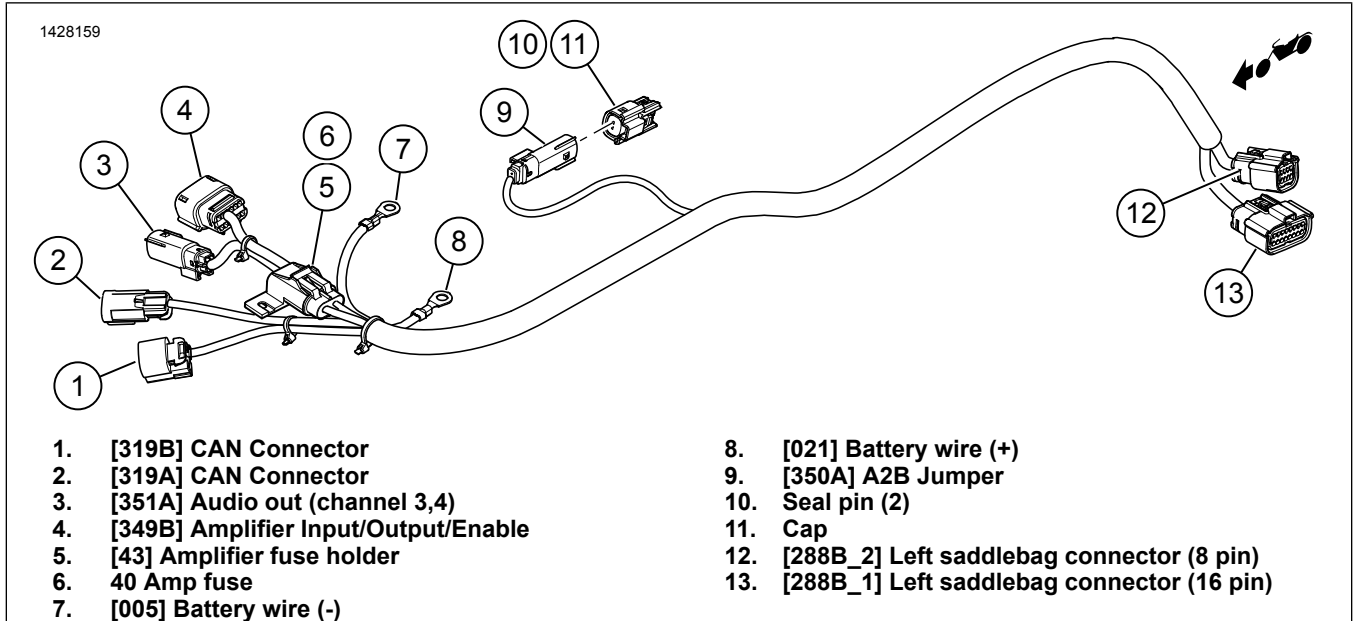

Figure 13. External Harness Connectors (2017 and Later)
See Figure 13. If a secondary amplifier is **NOT** installed, insert seal pins (10) into cap (11) and connect to connector 350A (9).
Also see Figure 13 to reference the 2017 and later external harness connectors.